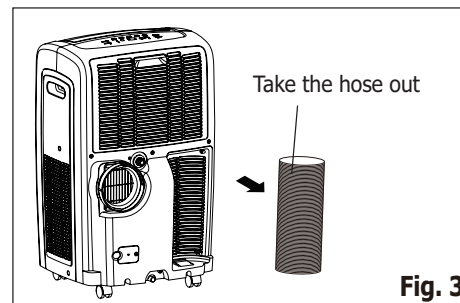

Fig. 3
1. Take the hose out from back of the unit (Fig. 3).